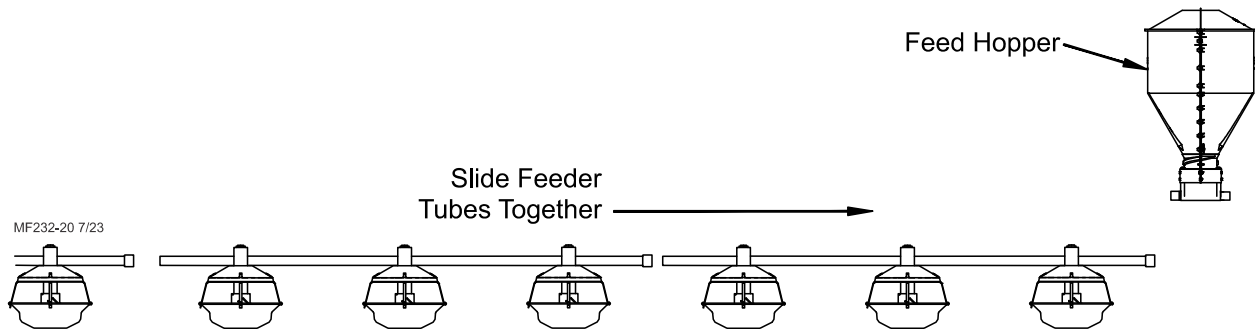

Figure 23. Feeder Line Assembly Procedure
1. The tubes should be laying end to end in approximately the final location of the line. The expanded end of each tube should be toward the Hopper end of the line, **see figure 23.**